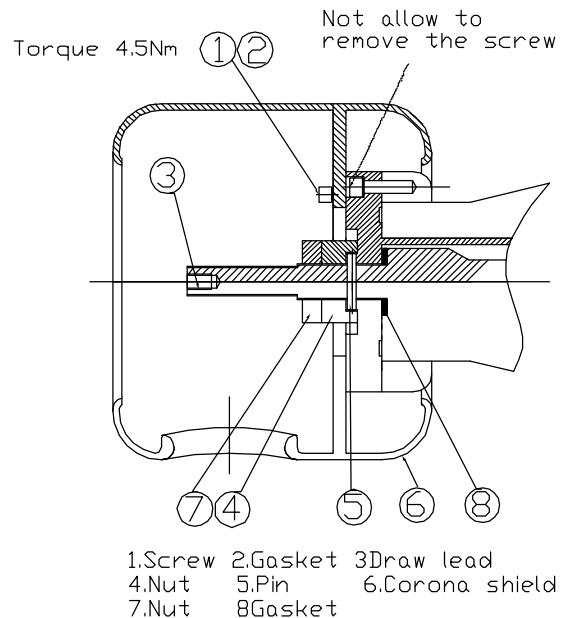

Fig. 1-2
4.1.3 Some special screws in the bushing can't be removed otherwise the gas tight property will be deteriorated. Fig 1-1, Fig1-2
When the transformer is completed and has been filled with oil, the bushing central tube can be air released by unscrew pt. 2 clamping nut in Fig. 1-1 pt. 3 and 4 in Fig. 1-1 half turn. After air releasing is complete the part should be retightened to a torque of 30Nm. In case of Fig. 1-2, fix pt. 6 corona shield using pt. 1 and 2 to a torque of 4.5Nm. Thoroughly clean the insulation at the cable box end of the bushing including the connecting surface. Connect busbar or cable to the terminal of the bushing.